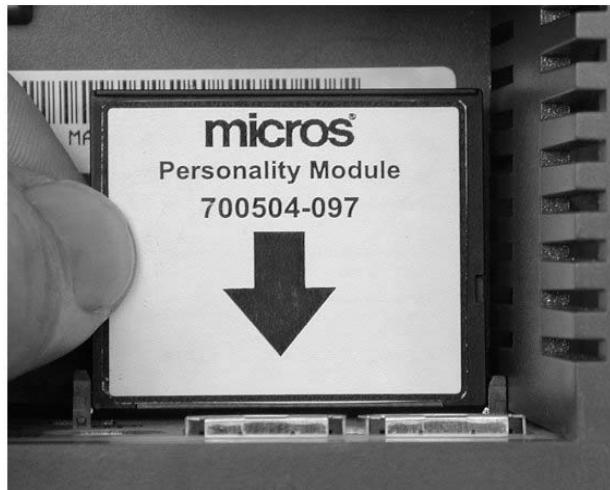

Figure 3-9: CF Personality Card Label
- The CF card is a keyed device - it can only be installed one way, but it is possible to force the card into its socket upside down. A CF card installed at the factory includes a label showing the correct orientation of the card as you insert it. See Figure 3-9 for an example. Also keep in mind that when properly oriented, very little force is required to insert it.
To assist in orienting the card as you install it, a label similar to that shown in Figure 3-9 will be added to the CF card after July 2003. Note the arrow showing the proper orientation of the card.